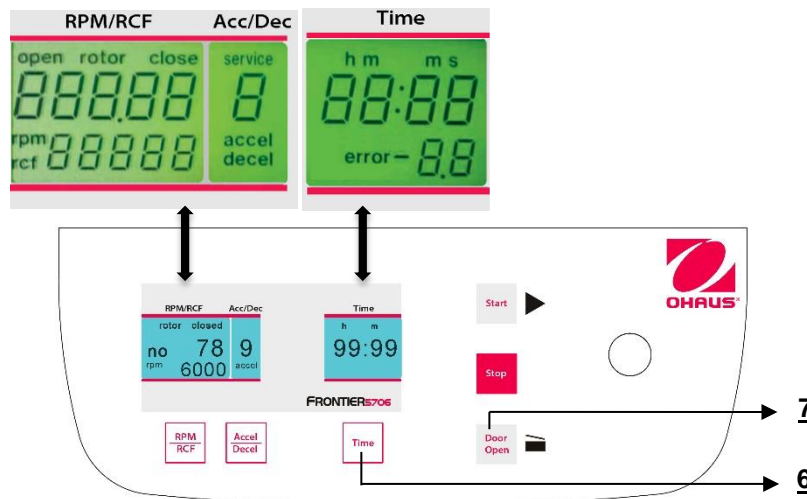

Figure. 26
While the centrifuge is turned off, press simultaneously the keys **"Time"**(6) and **"Door Open"** (7) and turn on the main switch of the centrifuge. Now release both keys and as a result a display test is executed for approx. 5 seconds. All indicators will appear at the same time (See figure 26).